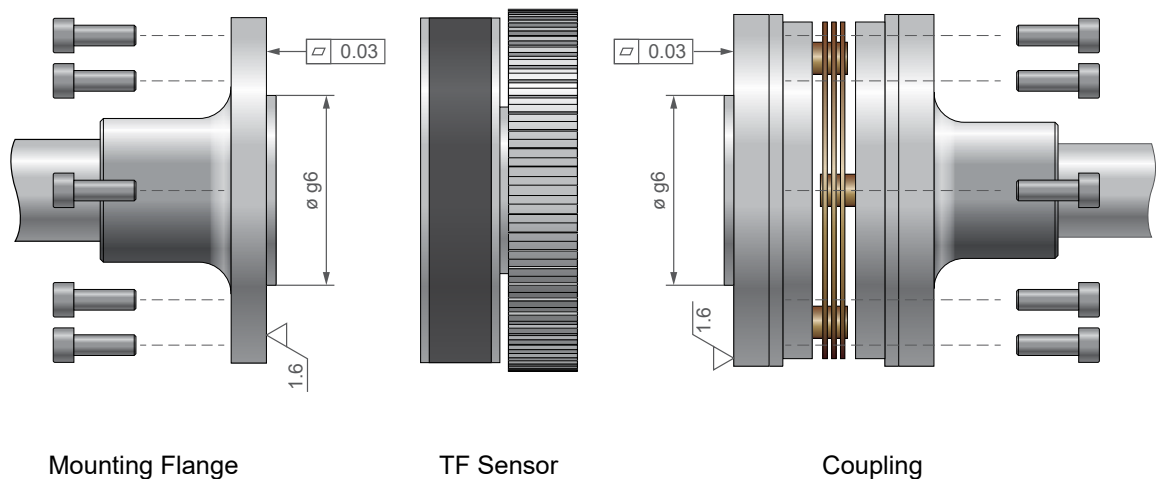

Fig.2-7 Mounting Flange and Coupling Specifications
- To achieve the best possible centering of the measuring flange, the mounting flanges and couplings should use a centering device with a «g6» tolerance on the outside diameter (see Fig.2-7).